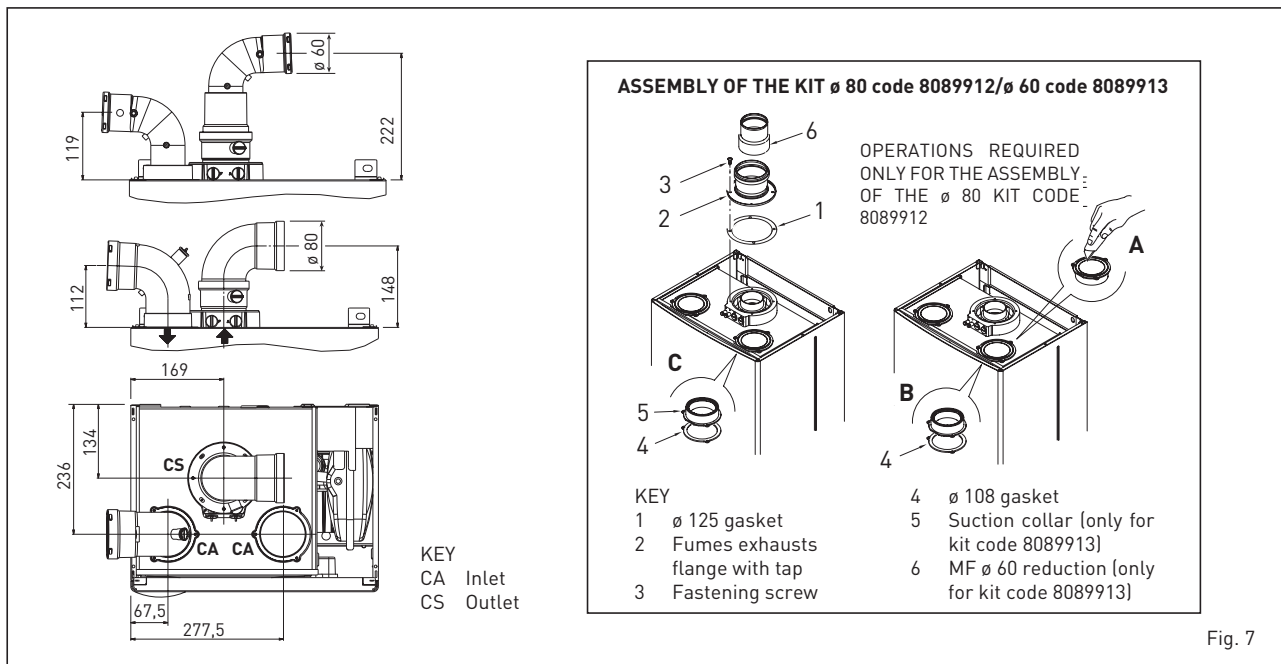

Fig. 7
## 2.6 INSTALLATION OF SEPARATE DUCTS ø 80 - ø 60 (fig. 7 - fig. 8)
The kit with dedicated pipes enables to separate the exhaust fumes pipes from the air suction pipes (fig. 7):
**exhaust flange (pos. 2 fig. 7) when the total load loss of the separate ducts is below H2O (do not use the diaphragm with total load losses above 9 mmH2O up to 15 mmH2O).**